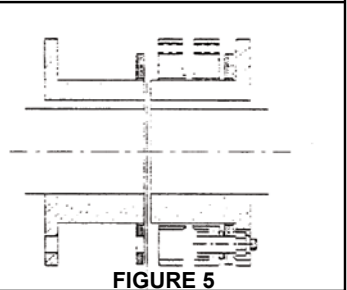

FIGURE 5
2) Loosen the coupling nuts and remove the hardware from one end of the coupling. Slide the adapter to one side as shown in figure 5. Remove and replace the flex discs as shown.